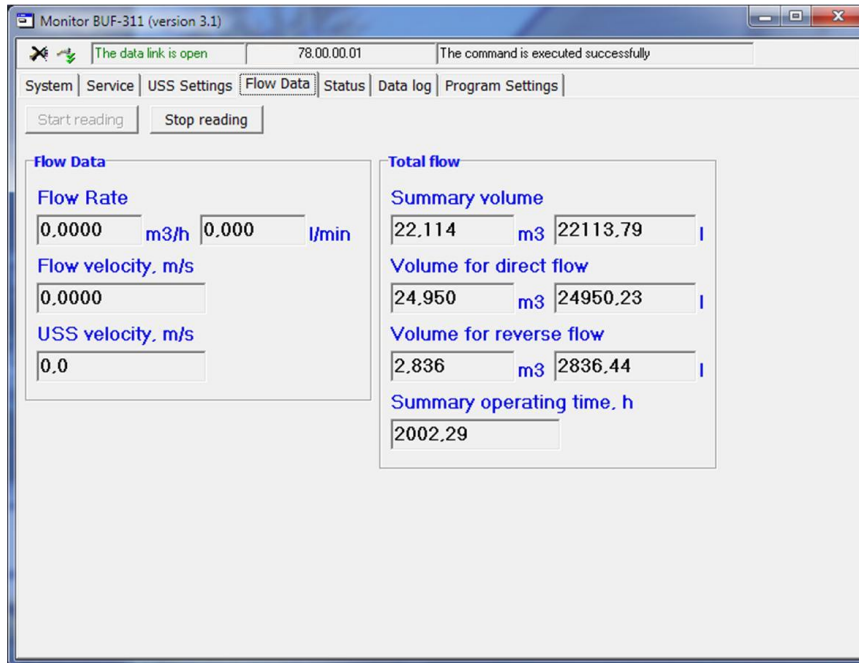

Fig.9. "Flow Data" window
4.1.4. Click on the "**Flow Data**" tab. Fig.9 displays the corresponding window. Pressing "**Start reading**" button allows you to view measured parameters.